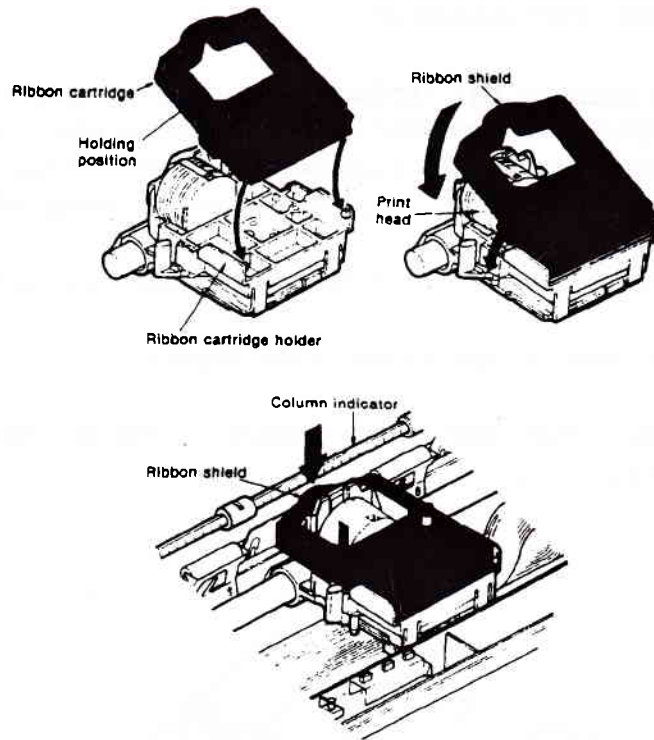

Figure 32, Ribbon cartridge
- a. Tilt the ribbon cartridge as shown on figure 32.